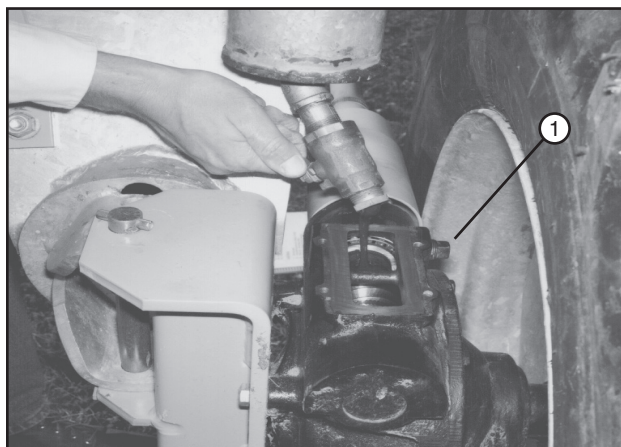

Figure 68-3 1. Check Plug
- Fill gearbox to the top of worm gear shaft or remove the check plug and fill until the oil begins to flow out of the check plug hole. See figure 68-3.